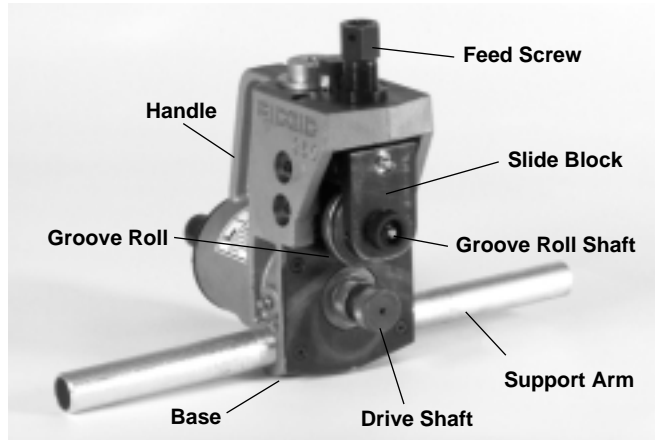

Figure 2 – 960 Roll Groover
1. Screw the two (2) support arms into the groover base (Figure 2).